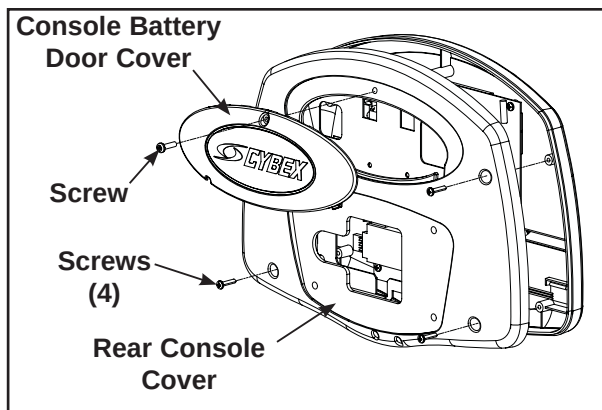
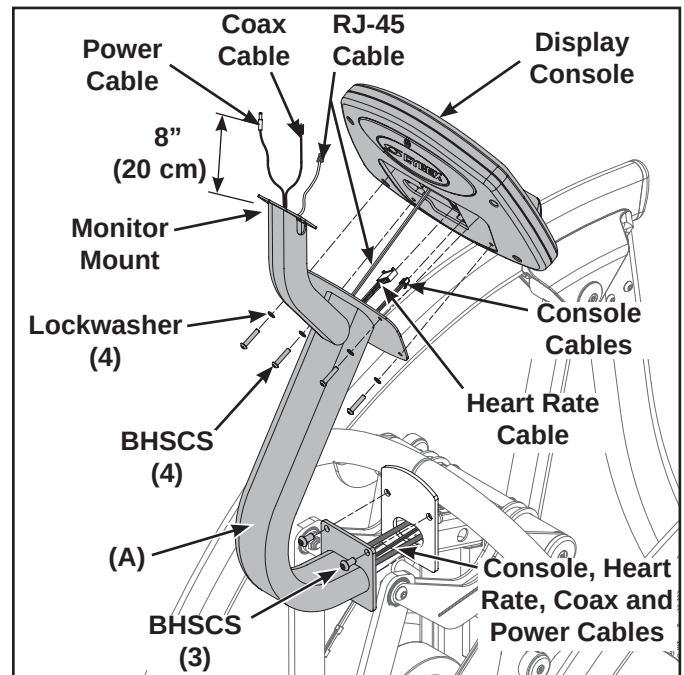

Figure 12
Figure 18
- A. Using a Phillips screwdriver, remove the one screw securing the console battery door cover, then remove the four screws securing the the rear console cover to the front console cover. See Figure 12.
- A. Using a Phillips screwdriver, reattach the four screws securing the rear console cover to the front console cover. See Figure 12.
- A. Using a Phillips screwdriver, reattach the one screw securing the console battery door cover to the console cover. See Figure 12.
- A. Locate the console mount (A).
- C. Insert the cables into the bottom of the console mount (A) until the cable exit the top. See Figure 18.
- A. Position the console mount (A) on the main frame assembly and hand thread each of the three BHSCS. See Figure 18.
- A. Route the coax and power cables up through the monitor mount until 8" (20 cm) of cable exit the top. See Figure 18.
- C. Insert the RJ-45 cable that is attached to the display console up through the monitor mount. See Figure 18.
- A. Connect the console and heart rate cables exiting the top of the console mount to the console. See Figure 18.
- B.** Position the display console and hand thread each of the four BHSCS and lockwashers. See Figure 18.